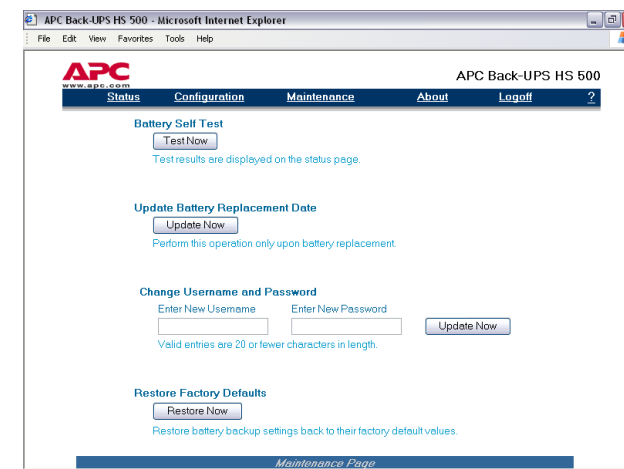

Figure 15. Maintenance Page Screen
14. Using the **Maintenance Screen** (Figure 15), you can perform a **Battery Self-Test**, **Update the Battery Replacement Date**, **Change the User Name or Password** (as previously discussed) then click **Update Now**, or you can **Restore Factory Defaults**. **Note:** You must be logged on to perform any of these tasks.